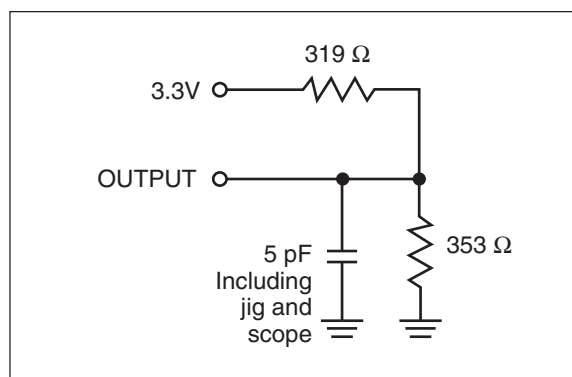

Figure 1b.
- Tested with the load in Figure 1b. Transition is measured ± 500 mV from steady-state voltage. Not 100% tested.
2. Tested with the load in Figure 1b. Transition is measured ± 500 mV from steady-state voltage. Not 100% tested.